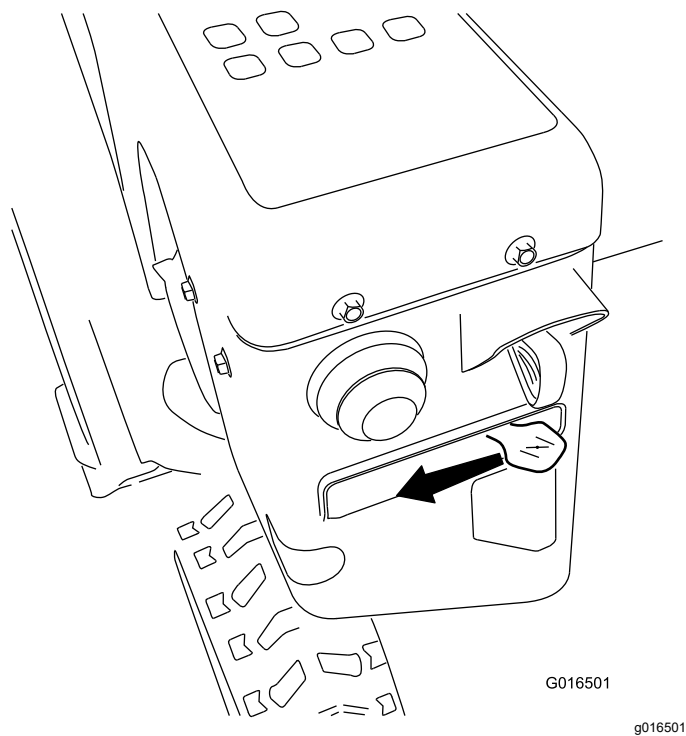

Figure 19
- Move the choke to the CHOKE position (Figure 19).